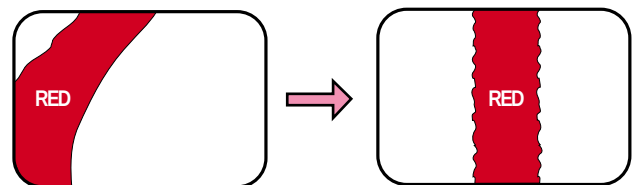

Fig. 4-8
- Adjust the purity magnet so that the red area comes to the center on the CRT screen as shown in Fig. 4-8.